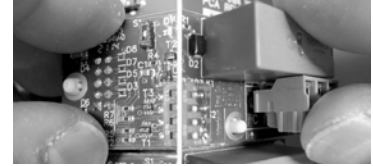

Figure 3 - Pressing the OUTPUT MODULE into place
- Using the thumb and index finger of each hand, press the OUTPUT MODULE into place. A "click" should be heard as the retaining standoffs click into place. See **Figure 3**